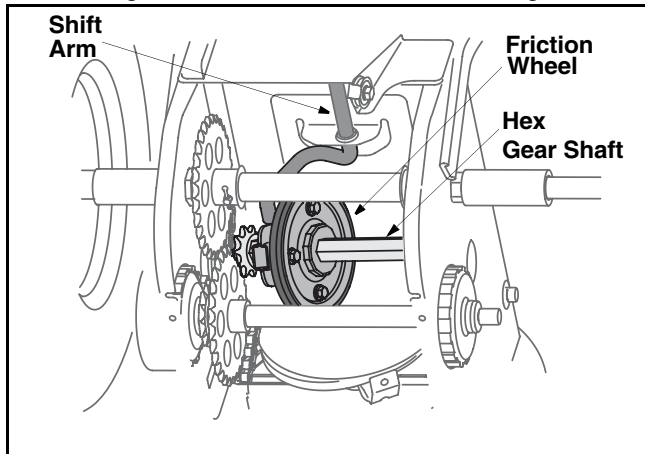

Figure 22
10. Insert the shift arm assembly into the friction wheel assembly and hold assembly in position. See Figure 22.
14. Install the right bearing on the hex gear shaft and check that the spacer and bearing in the drive cover are aligned to the steerable shaft. See Figure 22.